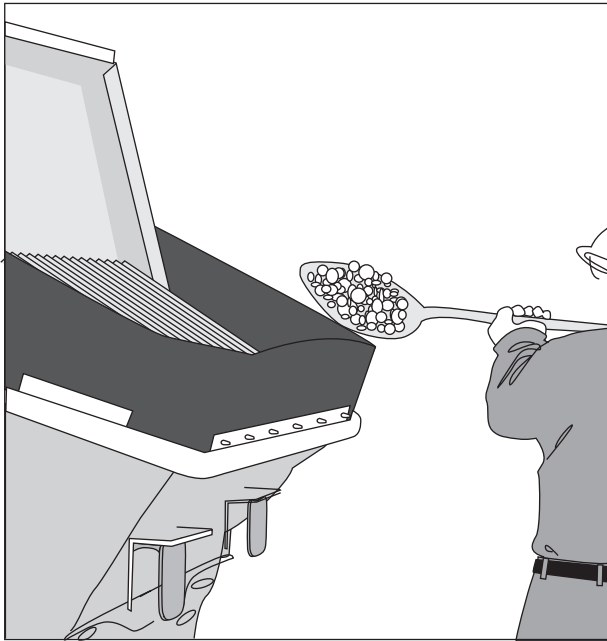

Figure 7
- **Put a couple of shovelfuls of sand or dirt in the bottom of the rock valve housing, above the cleanout door** (Figure 7). This will prevent concrete from filling the door area and setting during the course of the day.